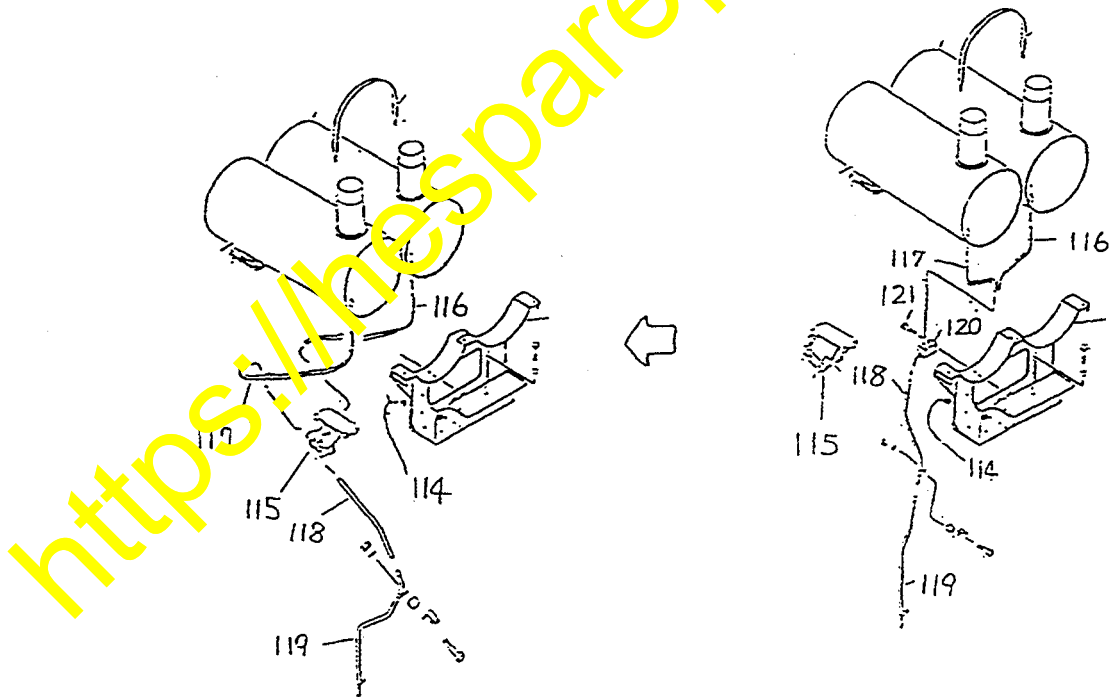

Fig. 41
⑨ Common muffler water drain tube on D475A-2 (Fig. 41)